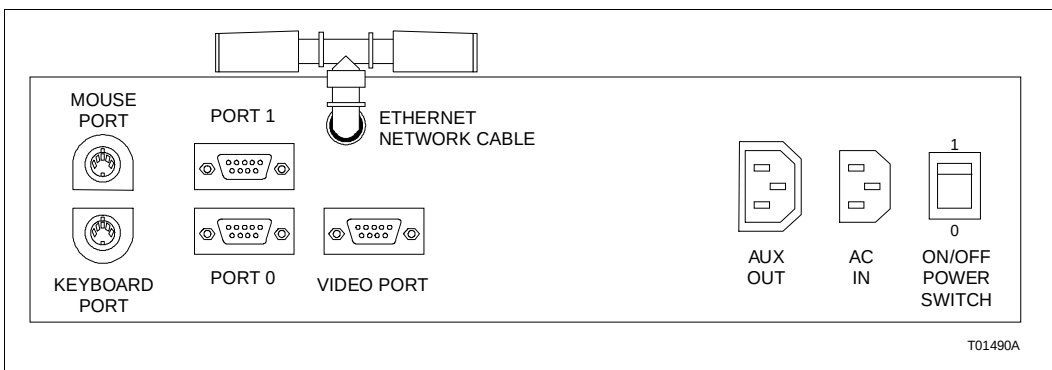

Figure PR9-4. Environmental Model Joystick Connection
- ☐ 4. The environmental model supports a joystick. Plug the joystick into the port marked MOUSE PORT on the rear of the CPU (Fig. PR9-4).